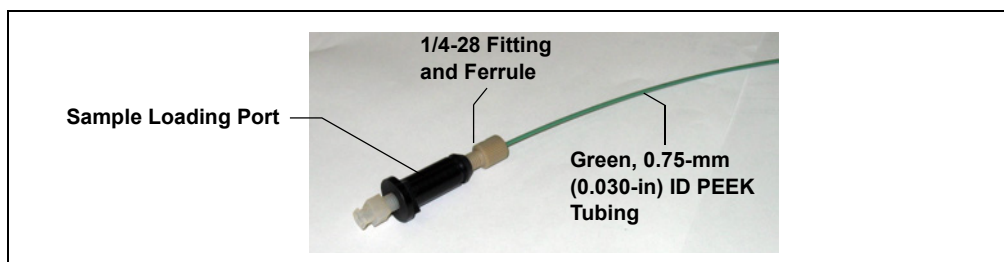

Figure 5-4. Sample Loading Port Tubing Connection
5. Attach a 1/4-28 fitting and ferrule to one end of this tubing and connect it to the rear of the sample loading port (see Figure 5-4).